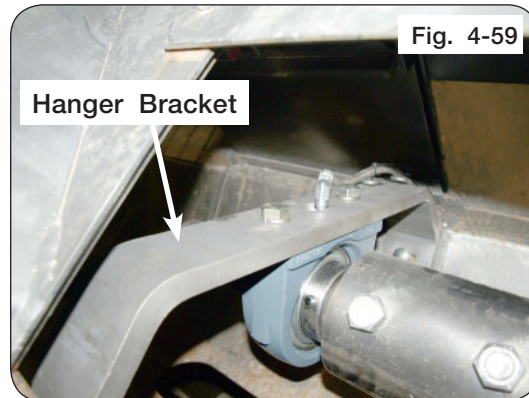

Fig. 4-59
21. Install hanger bracket. Leave the capscrews loose attaching hanger bracket to the cart. Attach hanger bracket to the bearing. (Figure 4-59)
22. Reattach grease line components. (Figure 4-59)